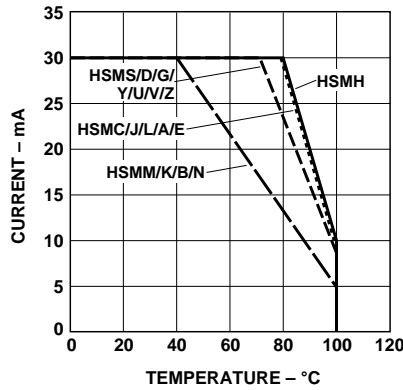

Figure 4. Maximum forward current vs. ambient temperature. Derated based on  $T_{JMAX} = 110^{\circ}C$ ,  $R_{\theta JA} = 500^{\circ}C/W$ .
1. Derate linearly as shown in Figure 4.